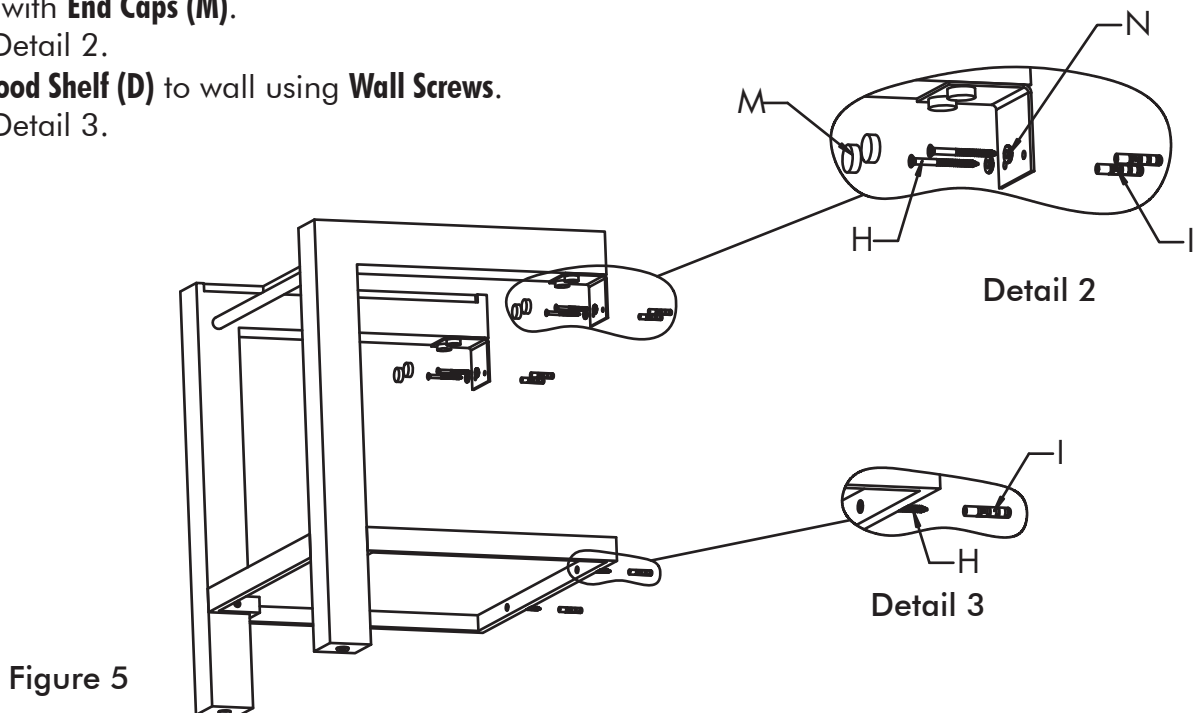

Figure 5
- Level and square unit. **Mark Wall Screw (H)** locations on wall through **"L" Brackets** mounting holes and **Wood Shelf** mounting holes.
- Refer to Figure 5.
- Drill holes, insert **Anchors (I)**, and attach unit to wall using **Wall Screws** through **Threaded Gaskets**, covering with **End Caps (M)**.
- Attach **Wood Shelf (D)** to wall using **Wall Screws**.